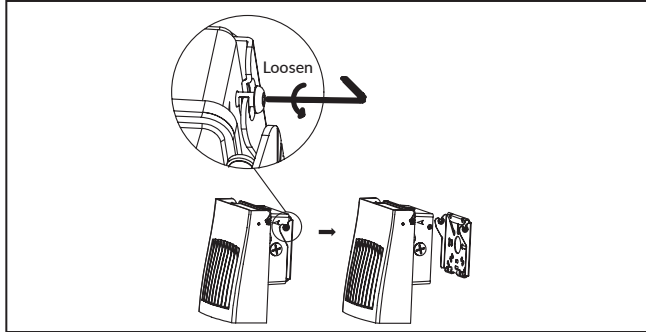

Figure 1.
1. Use a 3/32 Allen wrench to detach the mounting plate from the fixture by partially unscrewing the 2 side retaining screws, until the mounting plate is loose. (Figure 1)